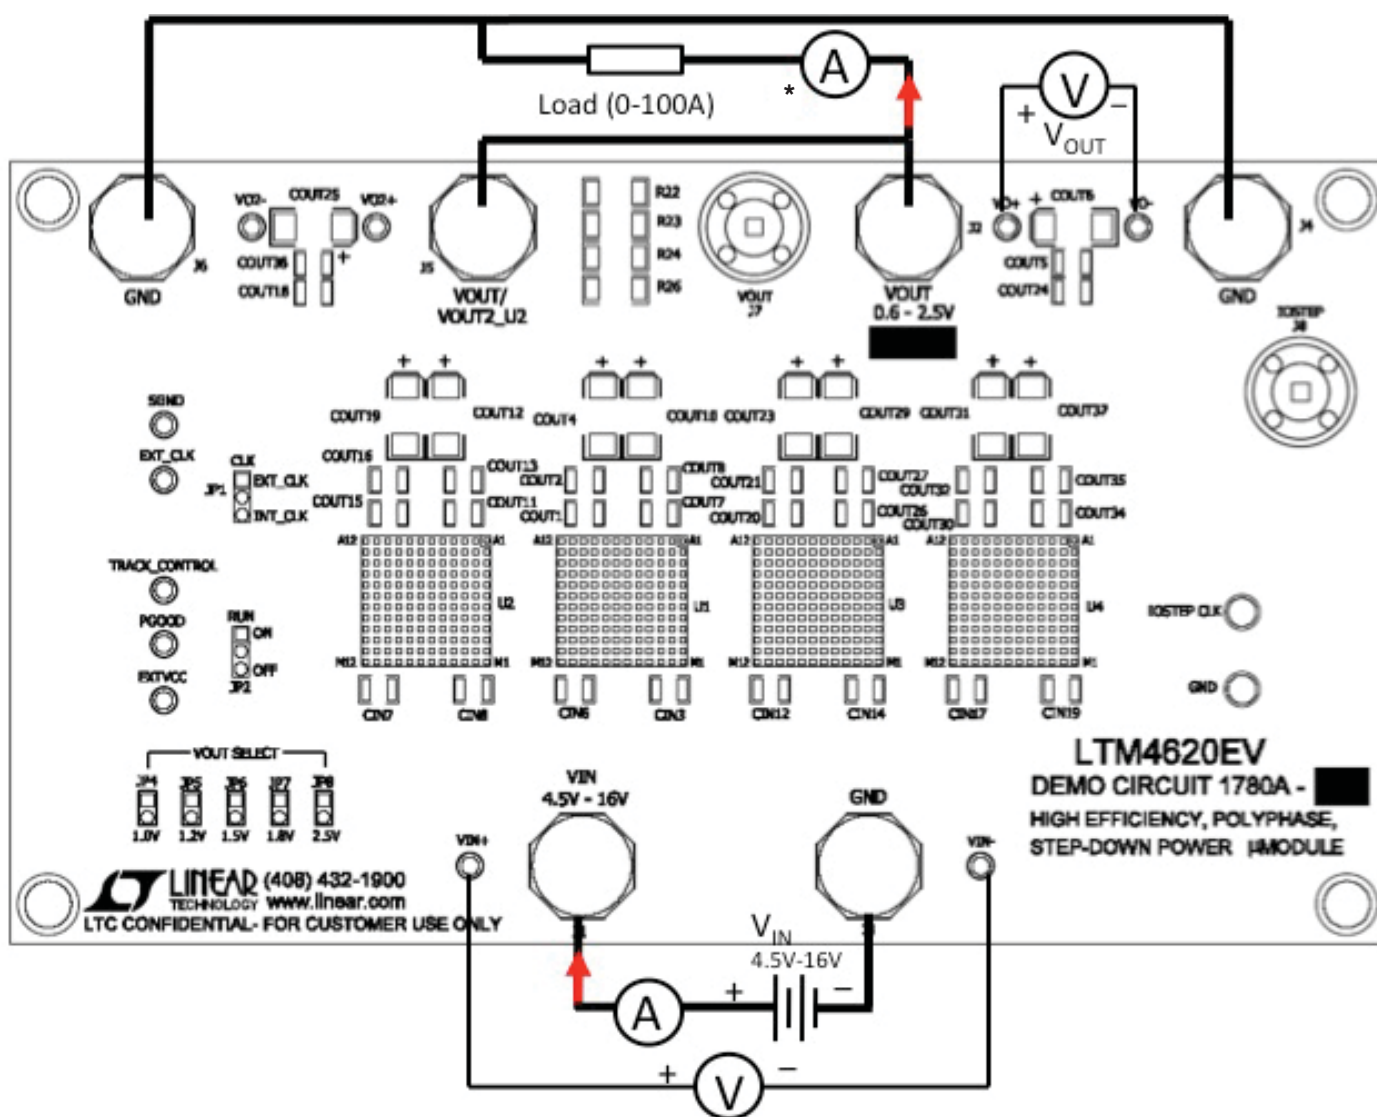

Figure 2. Test Setup of DC1780A-C
Demonstration circuit DC1780A-C is easy to set up to evaluate the performance of PolyPhase operation of the LTM4620EV. Due to the high input/output current, select a proper input supply/load/cable which can sustain the full load operation. Please refer to Figure 2 for proper measurement setup and follow the procedure below:
- With power off, connect the input power supply, load and meters as shown in Figure 2. Preset the load to 0A and V_{IN} supply to 12V.